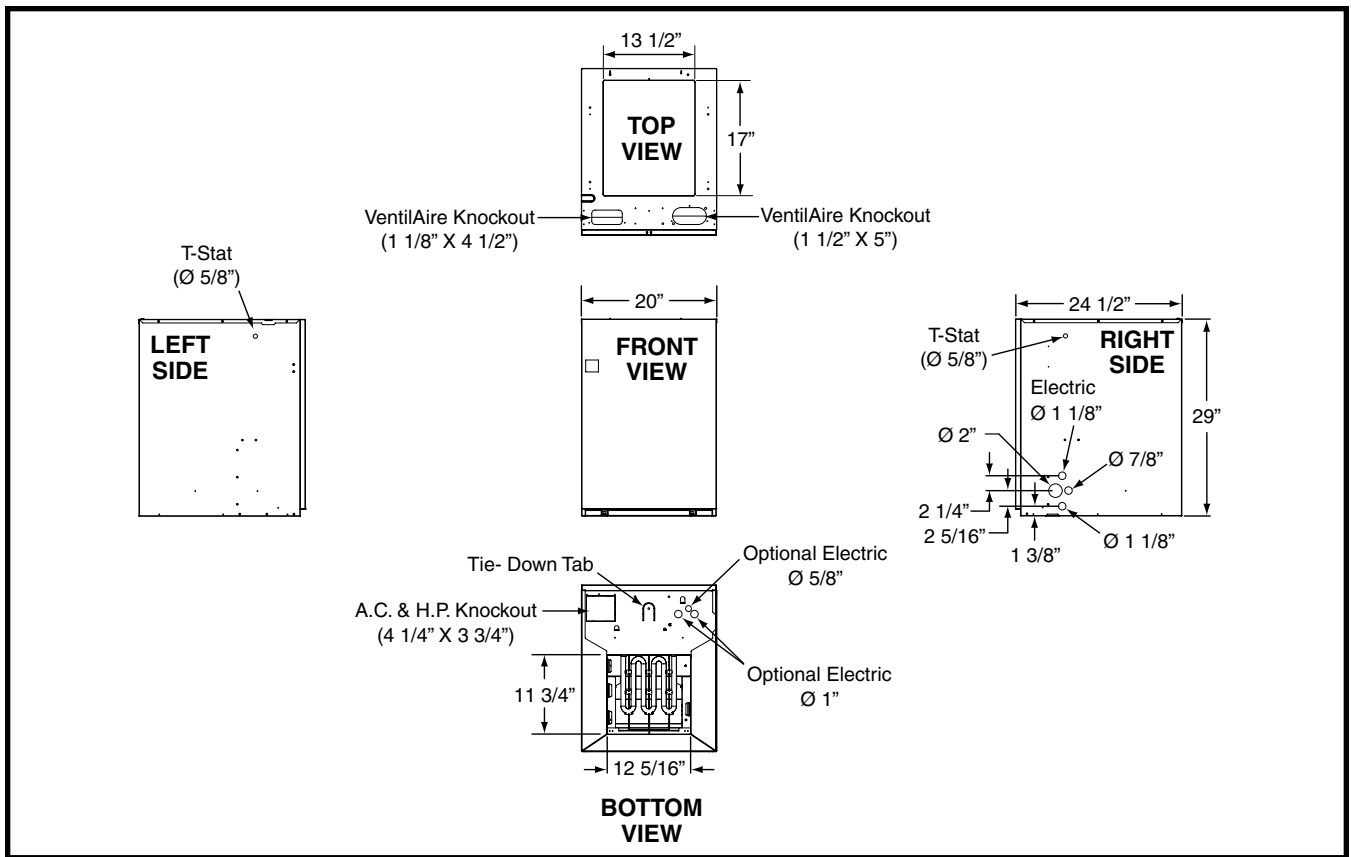
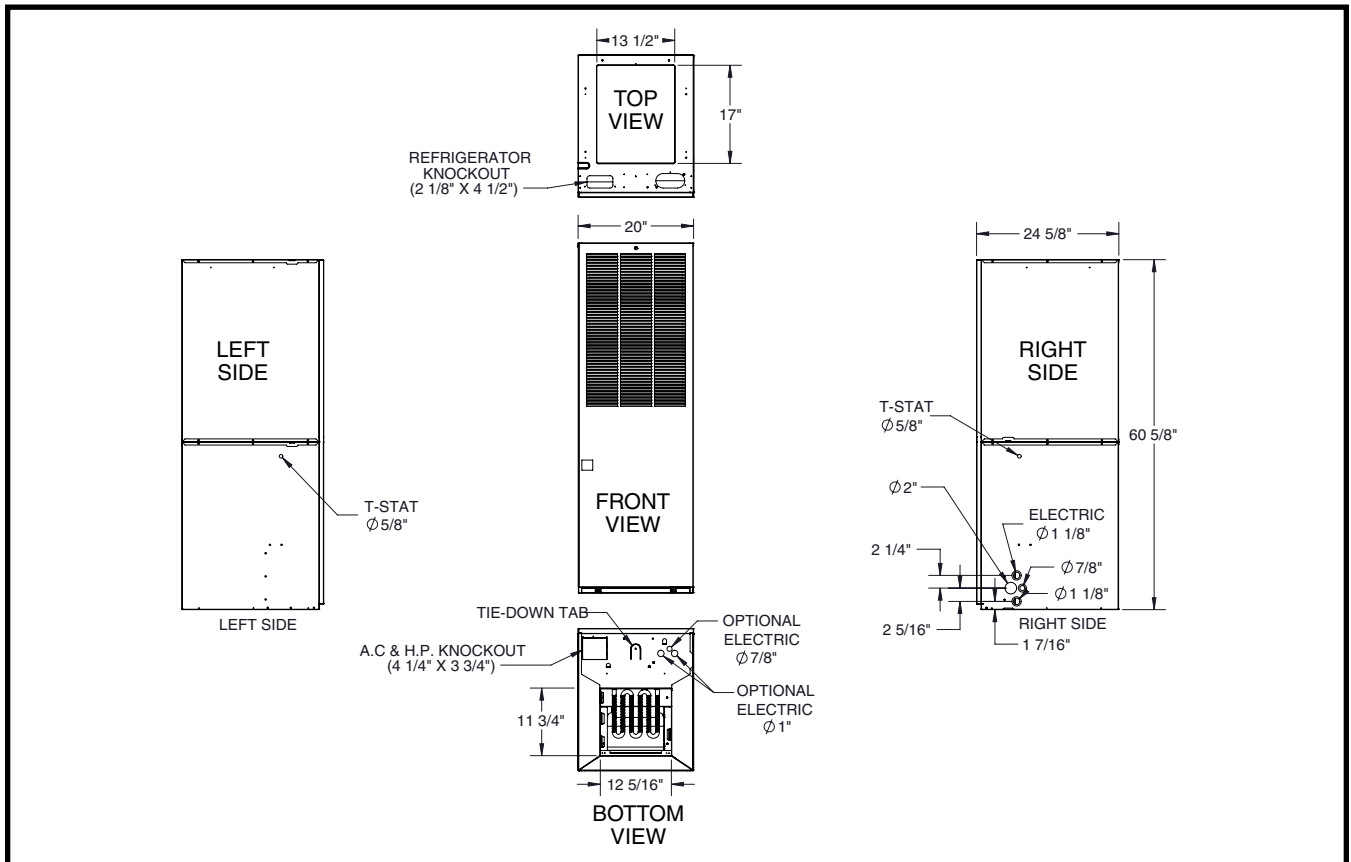

Figure 17. E7EM Physical Dimensions
Figure 18. E7EU & E7ED Physical Dimensions
3. Route 240V supply circuit(s) and 24V wiring to closet. See Figure 17 \(page 13\) or Figure 18 \(page 13\) for appropriate locations.